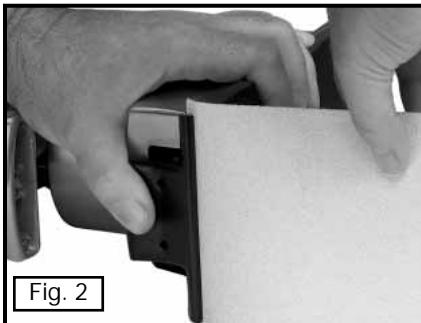

Fig. 2
1. Press the front clip toward the base. Slip one end of the abrasive sheet under the clamp (Fig. 2).